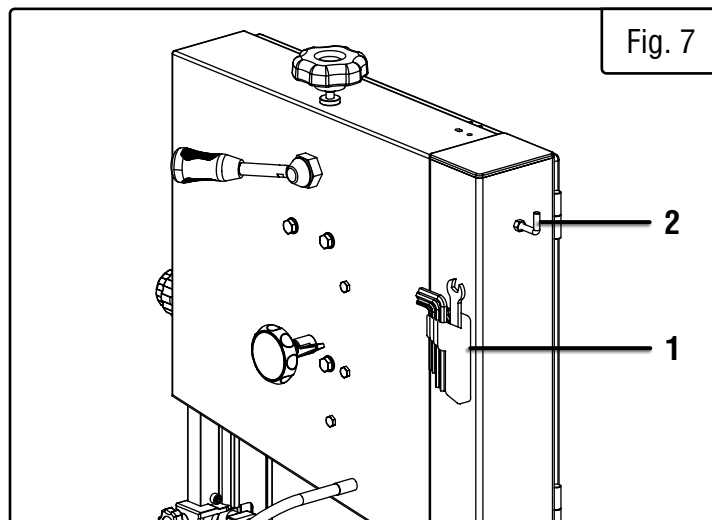
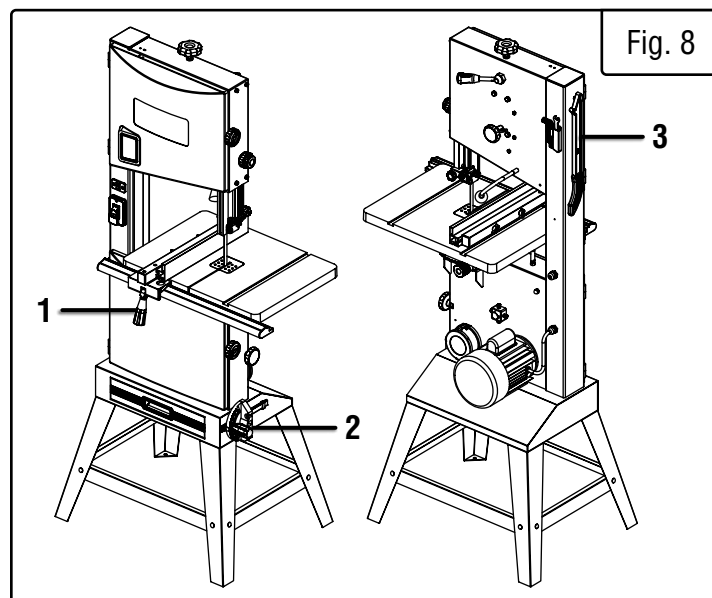

Fig. 7
Fig. 8
1. Install the accessory tools assembly to the frame by using M4x10 socket head bolts (Fig. 7 - 1).
2. Secure the hook with a hex nut to the frame (Fig. 7 - 2).
3. Set the rip fence onto the table. Lock it in place with the Fence Lock (Fig. 8 - 1).
4. Set the miter gauge into the onboard storage along the base of the bandsaw (Fig. 8 - 2).
5. Set the push stick on the hook (Fig. 8 - 3, Fig. 7 - 2).